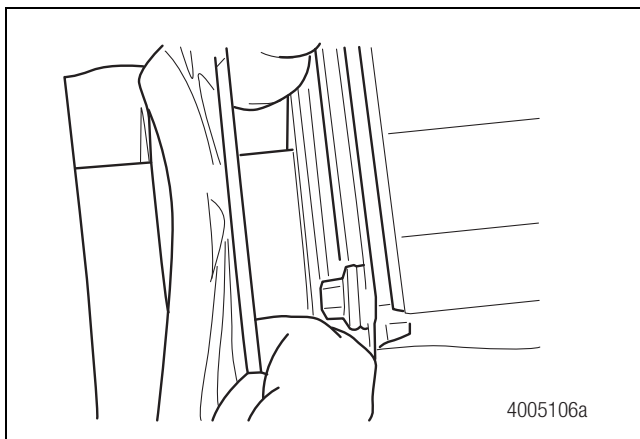
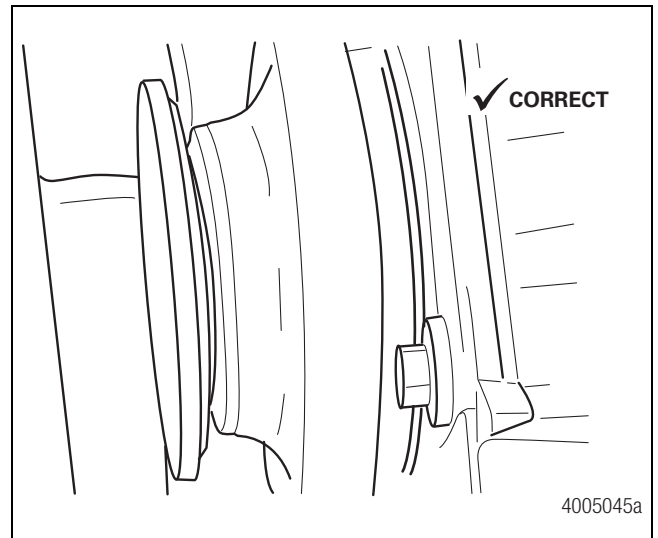
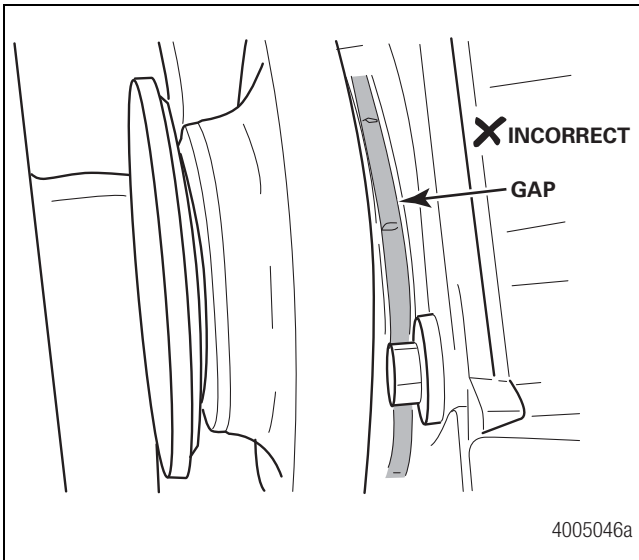

Figure 6.18
Figure 6.19
Figure 6.20
11. Rotate the piston boot and verify that the piston boot beads are correctly seated in the retainer groove. Figure 6.18. The piston boot beads must be correctly seated. Figure 6.19 and Figure 6.20.